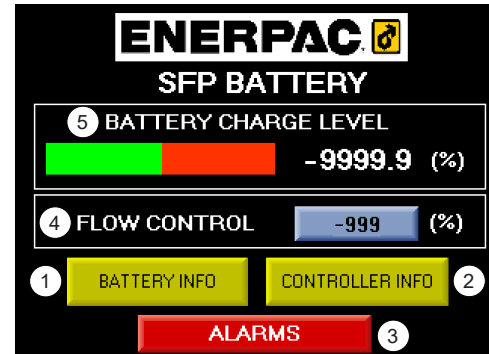

Figure 8: Main Screen
2. Push Depressurize button in the electric cabinet (Figure 8, item 6.)